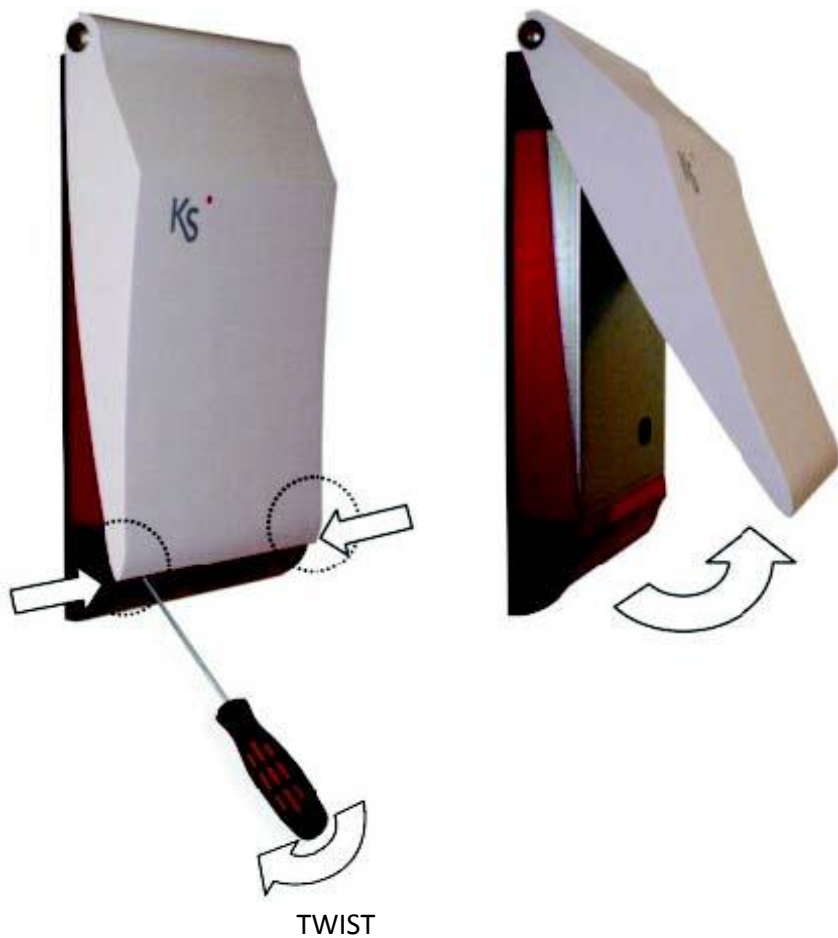

Figure 3. Siren opening.
- 1 Insert stainless steel hinges (supplied) and screw the nuts inside avoiding to tighten (2)
- 2 Open the PC cover forcing the corners with a screwdriver (Figure 3)
- 3 Remove the docking screw of the metallic undercover (4)
- 4 Remove the undercover pulling it from above, taking care not to damage the electronic circuit (3)
- 5 Drill the fixing bottom holes (7)
- 6 Pass-through the cable coming from the Control Panel in the eyelet (10)
- 7 Lock with Fischer plug the PC Base on the wall (7)
- 8 Set programming jumpers (universal version **imago** only) (23), (page 14)
- 10 Connect cables to connection terminals (19), (page 19)
- 12 Close the undercover and screw on (3)
- 13 Close the cover (Figure 3)